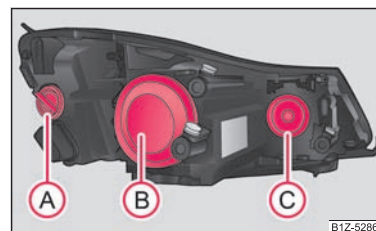

Fig. 192 Front headlight: Fitting position of the bulbs
Positions of the light bulbs in the front headlight ⇒ fig. 192.
- Remove the protective cap (B) ⇒ page 221, fig. 192.
- Remove the protective cap (C) ⇒ page 221, fig. 192.